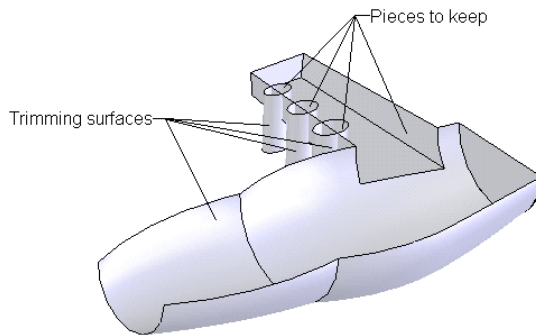

Figure 15-131 Trimming surfaces and the pieces to keep
- Select the trimming surfaces and the pieces to keep as shown in Figure 15-131.